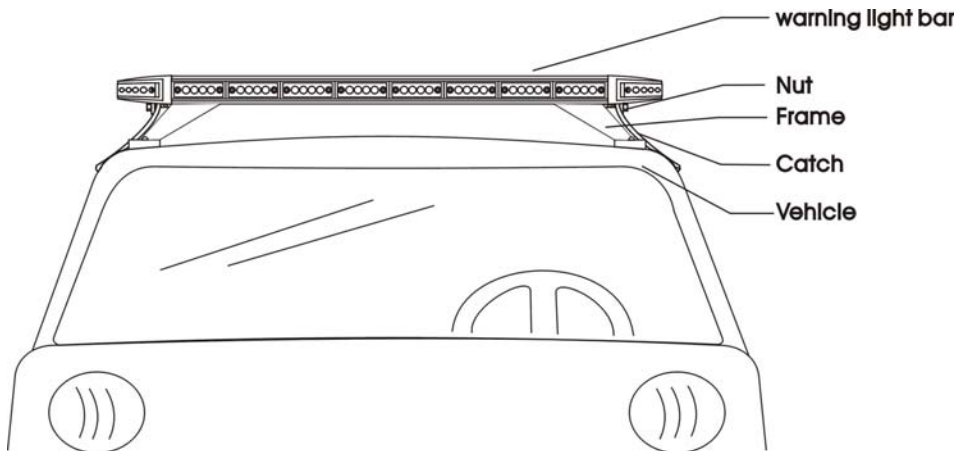

Figure 1. INSTALLATION OF THE LIGHT BAR
- Put light bar on the roof of the vehicle. Based on the vehicle's size, adjust the frame to fit it. Next, attach the catch(s) to the gutter on both side of the vehicle and tighten the nut. (See Figure 1 below)